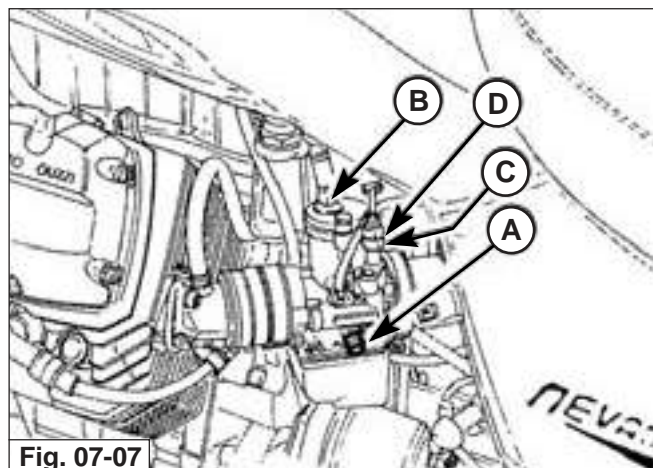

Fig. 07-07
## 4 REGOLAZIONE GIOCO CAVI COMANDO "CHOKE" (FIG. 07-07 E 07-08)
- "CHOKE" **cold start** control lever ("E" in fig. 07-07) located on left side of handlebars.
## ADJUSTING THE «CHOKE» CABLE PLAY (FIG. 07-07 AND 07-08)
- Per regolare il regime minimo a 1200÷1300 giri/min avvitare o svitare della medesima misura entrambe le viti "A" (Fig. 07-07).
- To adjust idle speed to 1200÷1300 rpm, tighten or loosen, by the same amount, both screws "A" (Fig. 07-07).
(figs. 07-07)